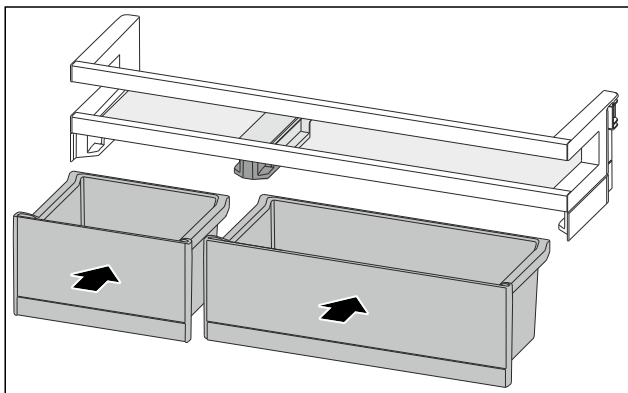

Fig. 115
- Insert the VarioBoxes in reverse order. (see Fig. 115)